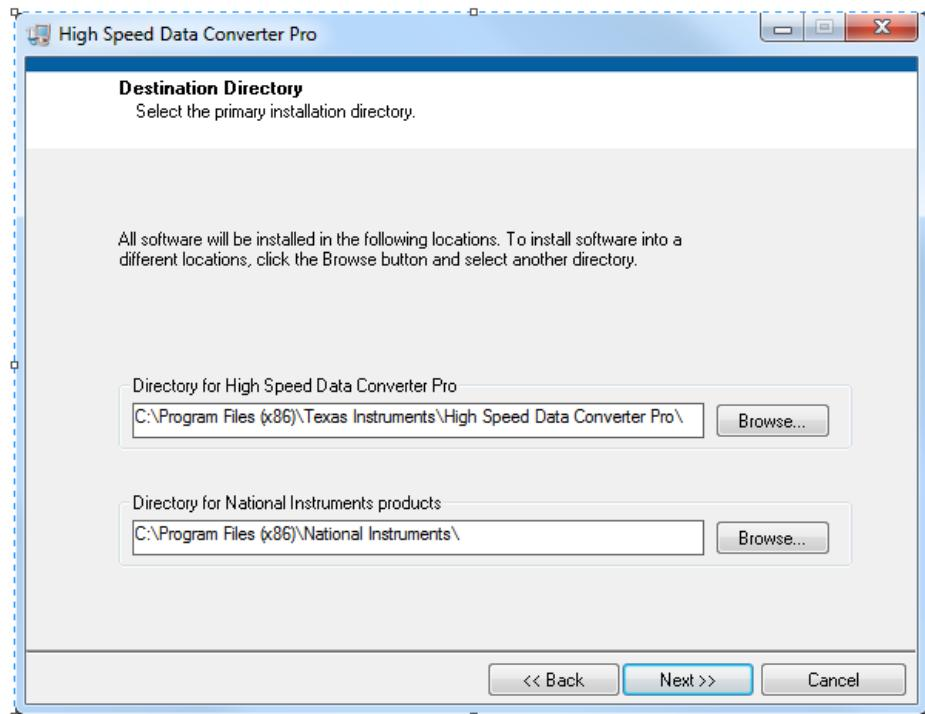

Figure 3. HSDCpro Install (b)
- Set the destination directories, or leave as default, for the TSW1400 GUI installation and press the Next button as shown in Figure 3.